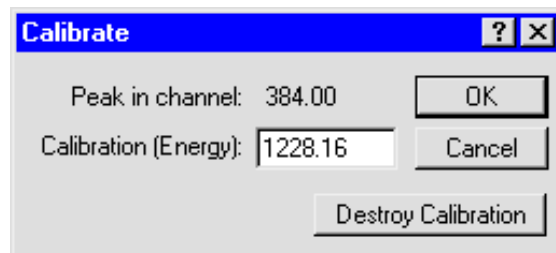

Fig. 70. The Calibrate Dialog.
The Calibrate dialog (Fig. 70) is used to establish a multi-point calibration for the data memory such that channel position and peak parameters are reported in the specified units as well as channels. If two points are entered, a linear calibration is done. When three or more points are entered, a quadratic fit to the entered points (up to 96 points) is automatically performed. The default units are keV but can be any units that you supply (as discussed in Section 4.3.2.2). The peak shape is measured and stored for later use in functions such as marking ROIs.
3. Select **Calculate/Calibration...** to choose the marked peak and calculate the centroid of the peak. If there is an ROI at the marker and the marked peak is good (that is, if it can be used in the calculation), the program will ask for the energy of the peak (see Fig. 70). If there is no ROI at the marker, a warning will appear at the bottom of the screen (see Fig. 71), and the marker channel will be used instead of the peak centroid.